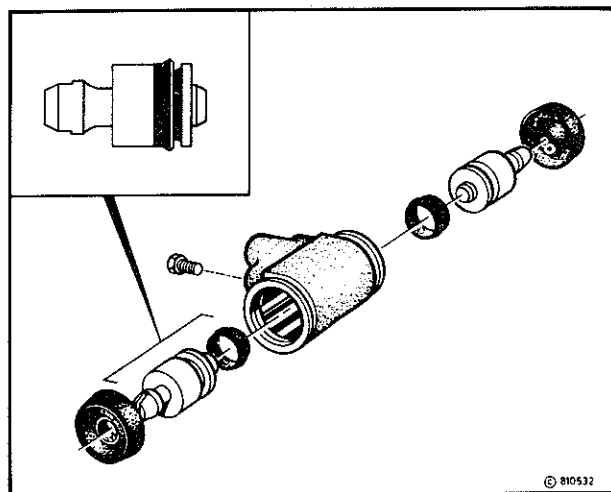

Fig. 5—Wheel cylinder components
(1) Fit the new piston seals with the flat back leading over the projecting boss of the pistons, see inset Fig. 5.
(2) Lubricate the piston seals and cylinder bore with clean brake fluid.
(3) Assemble the parts being careful not to damage the cylinder, piston, piston cup, etc.
(4) Install the wheel cylinder to the backing plate and tighten the bolts to the specified torque.
(5) Connect the brake pipe/s and tighten to the specified torque.